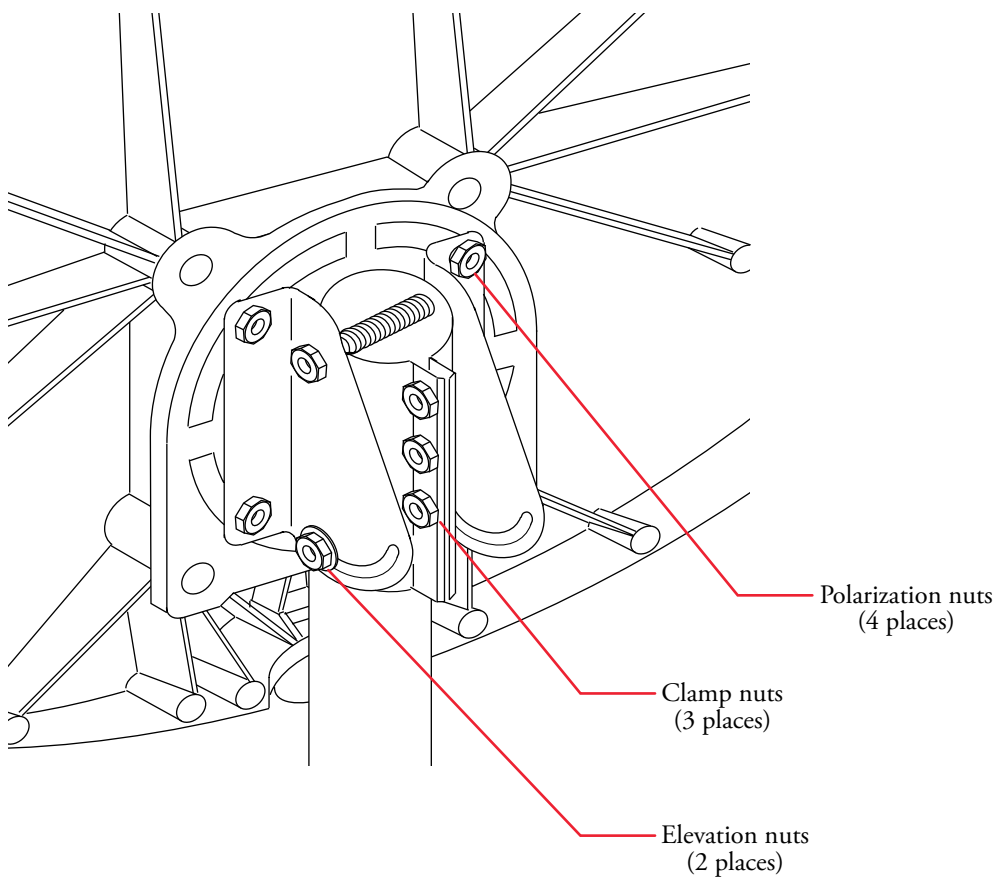

Figure 5-1. Reflector alignment hardware
1. Loosen the four polarization nuts (see figure 5-1) so the antenna can be turned with slight pressure. (A loose, wobbly reflector affects proper pointing of the antenna.)
3. Loosen the clamp bolts on the AZ/EL cap mount assembly that secure it to the mast tube (see figure 5-1). Loosen these bolts just enough to allow the antenna to move smoothly on the mast.